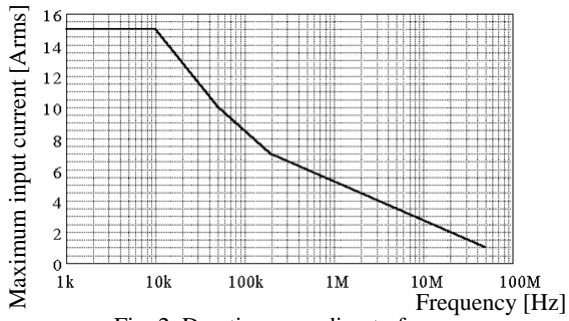

Fig. 2 Derating according to frequency
Maximum current	With InfiniiVision Series: 15A peak(DC+ACpeak), 15 ADC, 10 Arms continuous Max. peak: 30A peak non-continuous (when two probes are used) 30A peak(DC+ACpeak), 30 ADC, 24 Arms continuous Max. peak: 32A peak non-continuous (when one probe is used) With Infiniium Series: 15A peak, 15 ADC, 10 Arms continuous, 30A peak non-continuous (per each channel) (Refer to frequency derating curve, Fig. 2)
- The maximum continuous input range varies according to the frequency of the current being measured. See figure 2 in “Characteristics and Specifications”